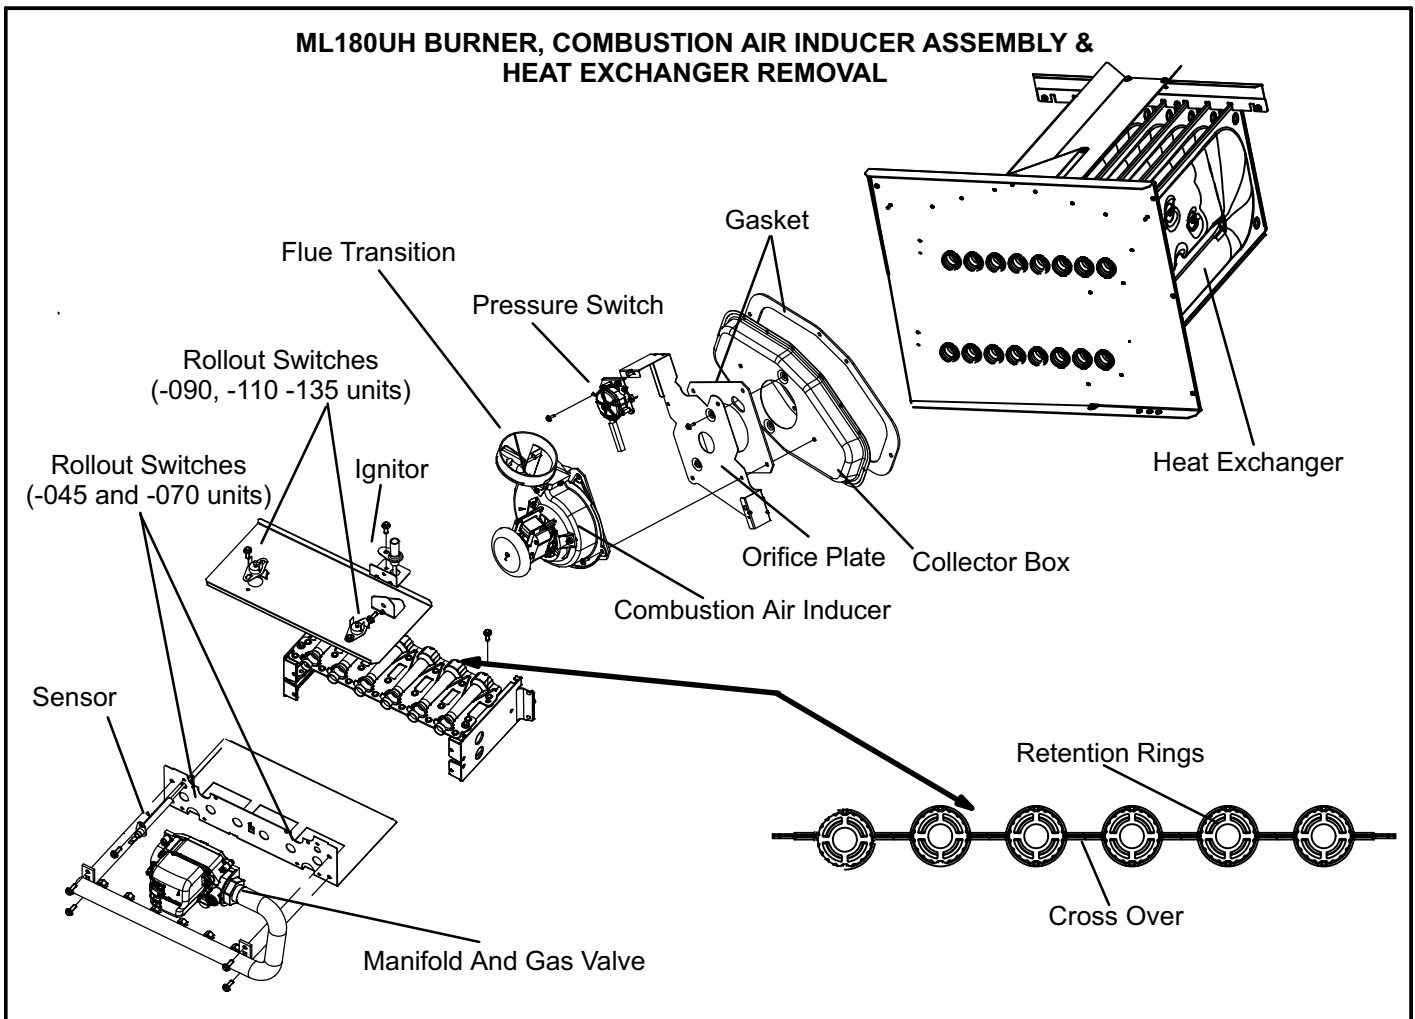

FIGURE 37
- 12 - To clean burners, run a vacuum cleaner with a soft brush attachment over the face of burners. Visually inspect inside the burners and crossovers for any blockage caused by foreign matter. Remove any blockage. Figure 37 shows burner detail.